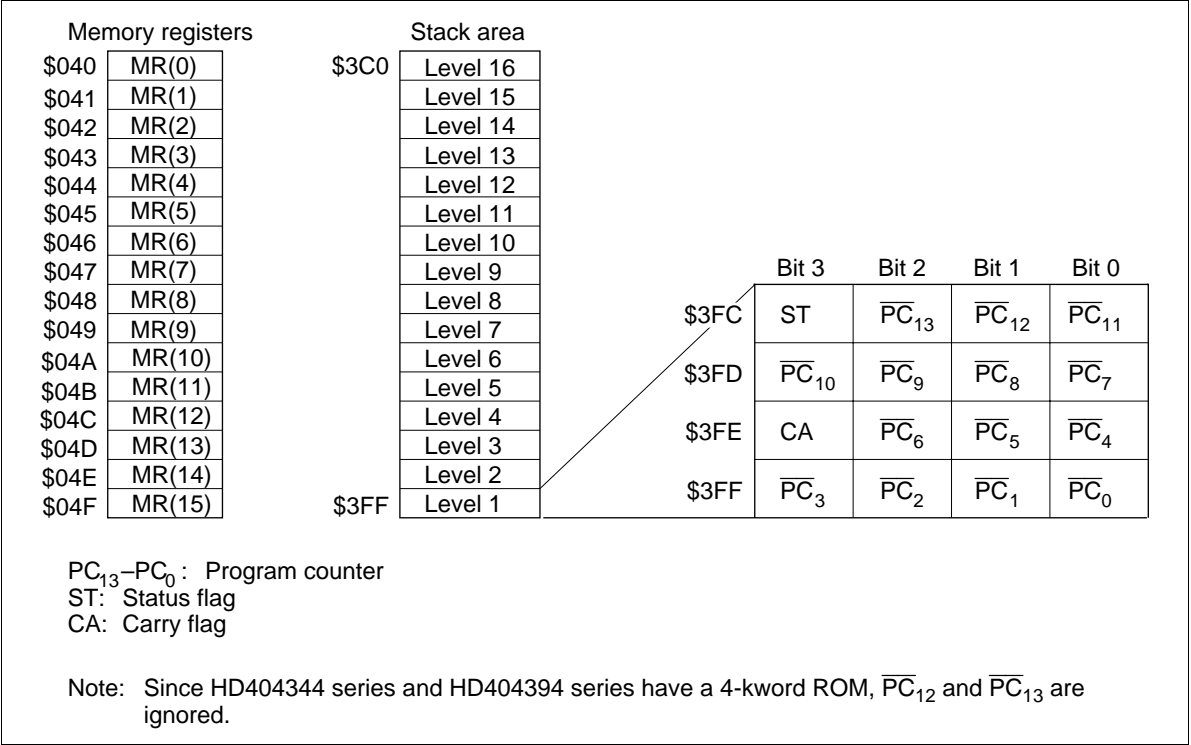

Figure 6 Configuration of Memory Registers, Stack Area, and Stack Position
Data Area (\$040 to \$0FF): Sixteen of the 176 digits in this area, from \$040 to \$04F, are memory registers. These registers can be accessed by the LAMR and XMRA instructions. Its configuration is shown in figure 6.
Stack Area (\$3C0 to \$3FF): This area is used to hold the program counter (PC), the status flag (ST), and the carry flag (CA) for subroutine calls (CAL and CALL instructions) and interrupts. Since four digits are used for each level, this area can be used for stacking up to 16 subroutines. The stacking order of saved data and the storing of bits are shown in figure 6. The program counter is recovered by the RTN and RTNI instructions. The status and carry flags are recovered only by the RTNI instruction.